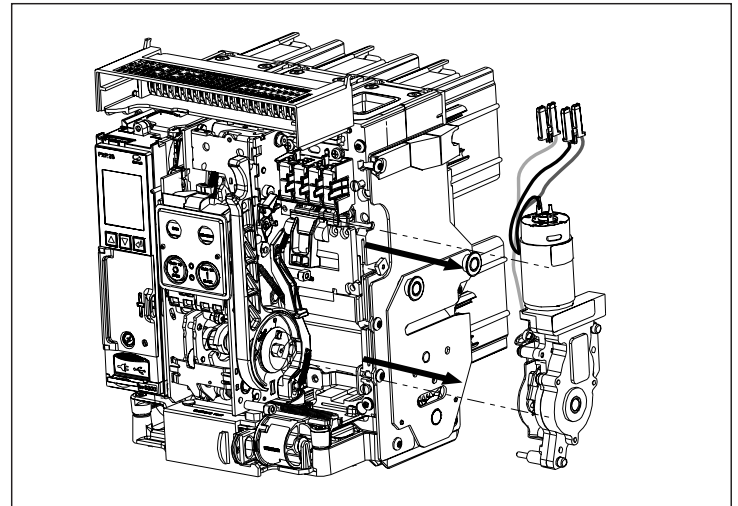

Figure 29. Step 4.
Step 4: Complete removal of the motor operator by pulling it out (Figure 29).